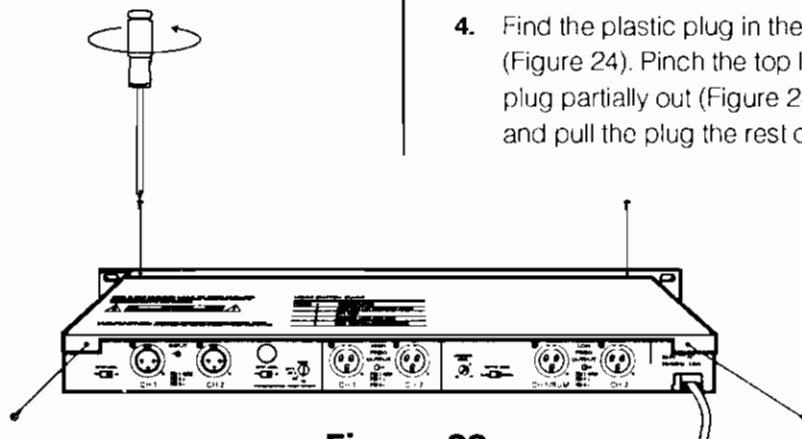

Figure 23
1. Unplug the systems controller. Disconnect all audio connections. Turn it so the rear panel faces you (Figure 23).
2. Remove the four Phillips head screws from the cover (Figure 23). Set them safely aside.